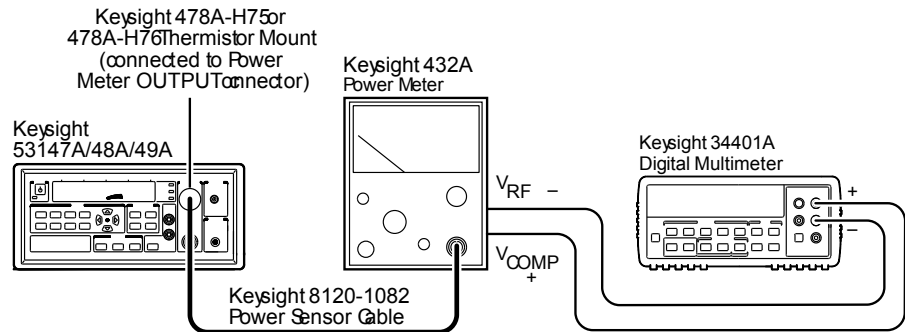

Figure 2-7 Power Meter Reference Level Calibration Setup
- 3 Round off the resistance reading to two decimal places and keep a record of this value as R. It is the internal bridge resistance (R) of the Keysight 432A Power Meter (this should be approximately 200.3 ohms).
- 4 Connect the Keysight 478A-H75 or 478A-H76 Thermistor Mount to the Keysight 53147A/148A/149A Power Meter **OUTPUT** connector, as shown in Figure 2-7.